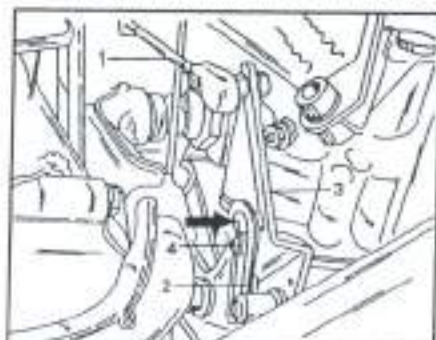

Fig. 1.105 - Details for the throttle control adjustment when an automatic transmission is fitted.
- On a vehicle with automatic transmission disconnect the adjustable connecting link (1) in Fig. 1.105 from the relay lever (3). Check if the adjuster lever on the injection pump is resting against the speed stop. Re-connect the connecting link to the lever, adjusting it if necessary to eliminate any tension. Check that the
roller (4) is resting without tension against the end stop, again without tension (arrow in Fig. 1.105).